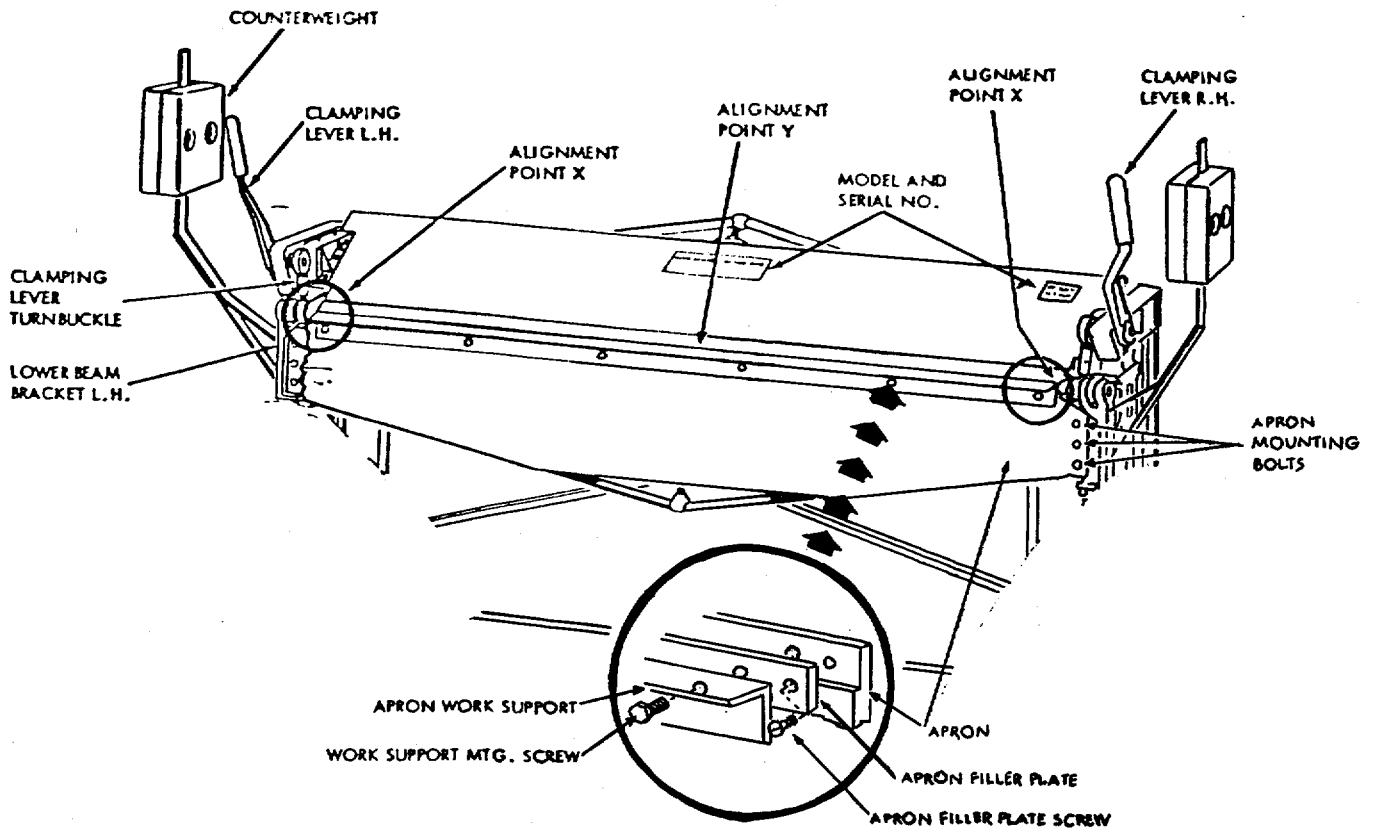
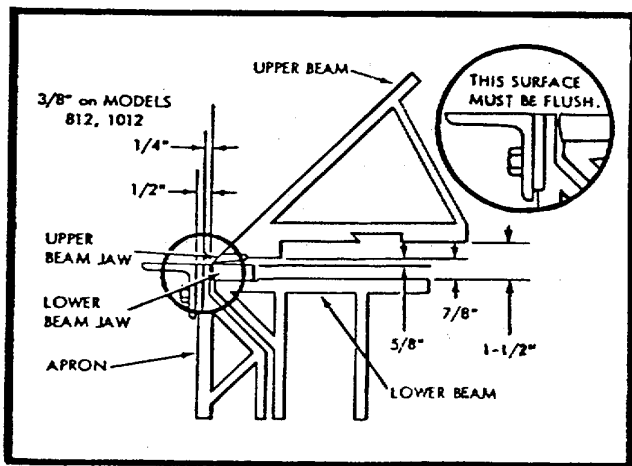
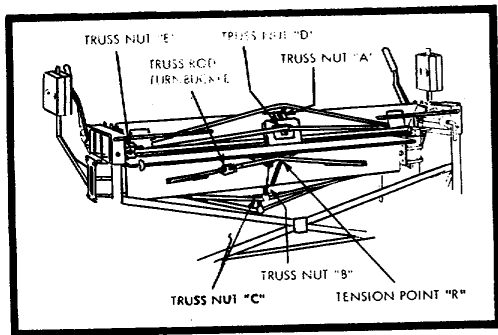

Figure 1. Front View of Brake
Figure 2. Reference Dimensions
Figure 5. Rear View of Brake Showing Tension Adjustment Points
Do not form wire, nails, rods or pipe in these brakes. These brakes will form a 1" flange over the entire length in their rated capacity. Brakes are reduced in capacity by 2 gauges when: Apron angle iron work support (see fig. 1) is removed. Brakes are reduced in capacity by 4 gauges when:
ADJUSTMENTS-BEFORE OPERATION (see fig. 2)
2. ADJUSTMENTS FOR BOWING (Refer to fig. 5 for location of Truss Nuts)
SOLUTION: Tighten Truss Nut (B). Level the Apron with the Lower Beam Jaw (see figure 2).
If 900 sample bend is true at both ends but less than 900 at center of piece, loosen apron mounting bolts (fig. 1) and lower the apron approximately 1/32' by unscrewing the apron adjusting screws. Retighten the apron mounting bolts and tighten truss nut (C, fig. 5) until both jaws of brake are flush at brake center (see fig. 2).
1. Loosen all truss nuts (A, B, C, D, E, fig. 5) and truss rod turnbuckle until all tension is released.
2. Tighten the truss rod turnbuckle until the rods are snug at tension point (R). Tighten an additional 1/4 turn.
3. Tighten Truss Nut (B) until snug. Tighten an additional three complete turns.
4. Check Apron at the alignment points (X, fig. 1) to see if it is flush with top of lower beam jaw (see inset, fig. 1). Up and down movement of the apron is controlled by turning the apron adjusting screw (fig. 1) at each end of the apron.
5. Tighten truss nut (C, fig. 5) until apron is flush with lower beam jaw alignment point (Y, fig. 1).
6. Tighten truss nut (E, fig. 5) as tight as possible.
7. Tighten Truss Nut (A) until the upper beam jaw is straight and parallel in relation to the lower beam jaw.
8. Tighten truss nut (D) until the center of the upper beam jaw bows forward slightly.
Remove apron angle iron work support and apron filler plate (inset, fig. 1). This permits 1/4' reverse bends to be made on all brakes.